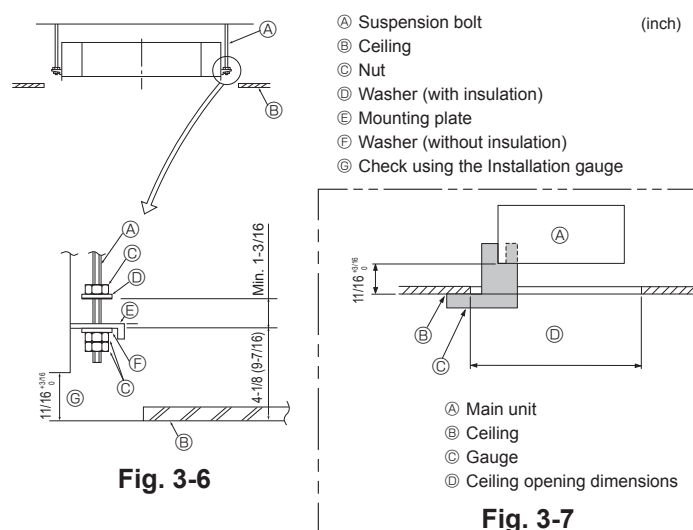

Fig. 3-6
3.6. Unit suspension procedures (Fig. 3-6)